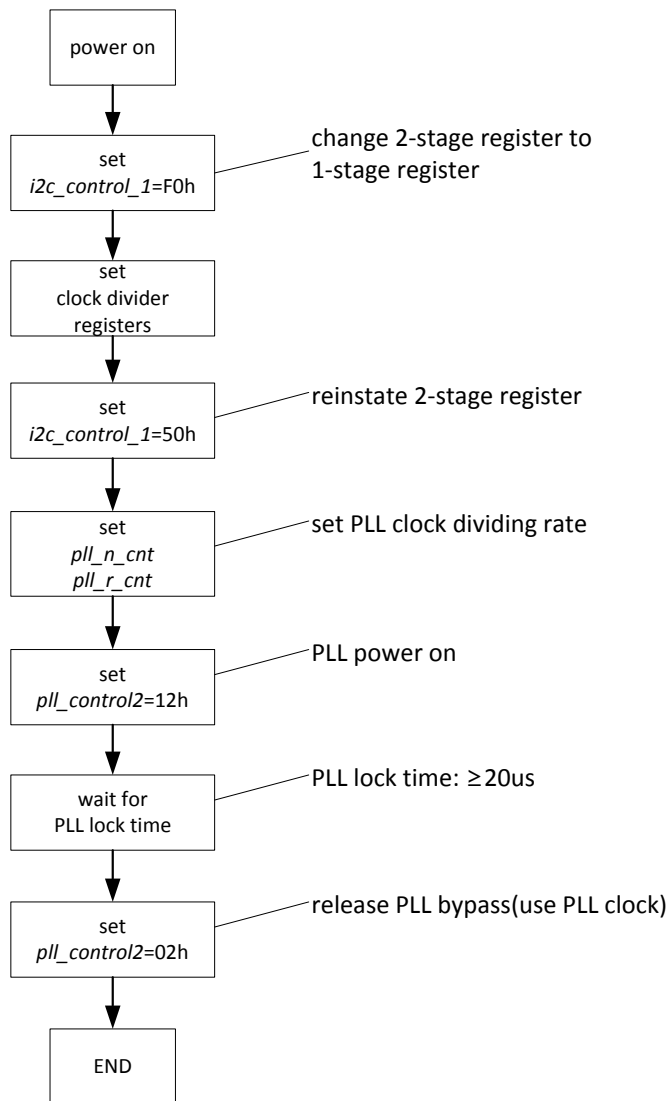

Figure 14 Clock setting sequence
- When using PLL, set-up sequence shown in **Figure 14** is necessary.